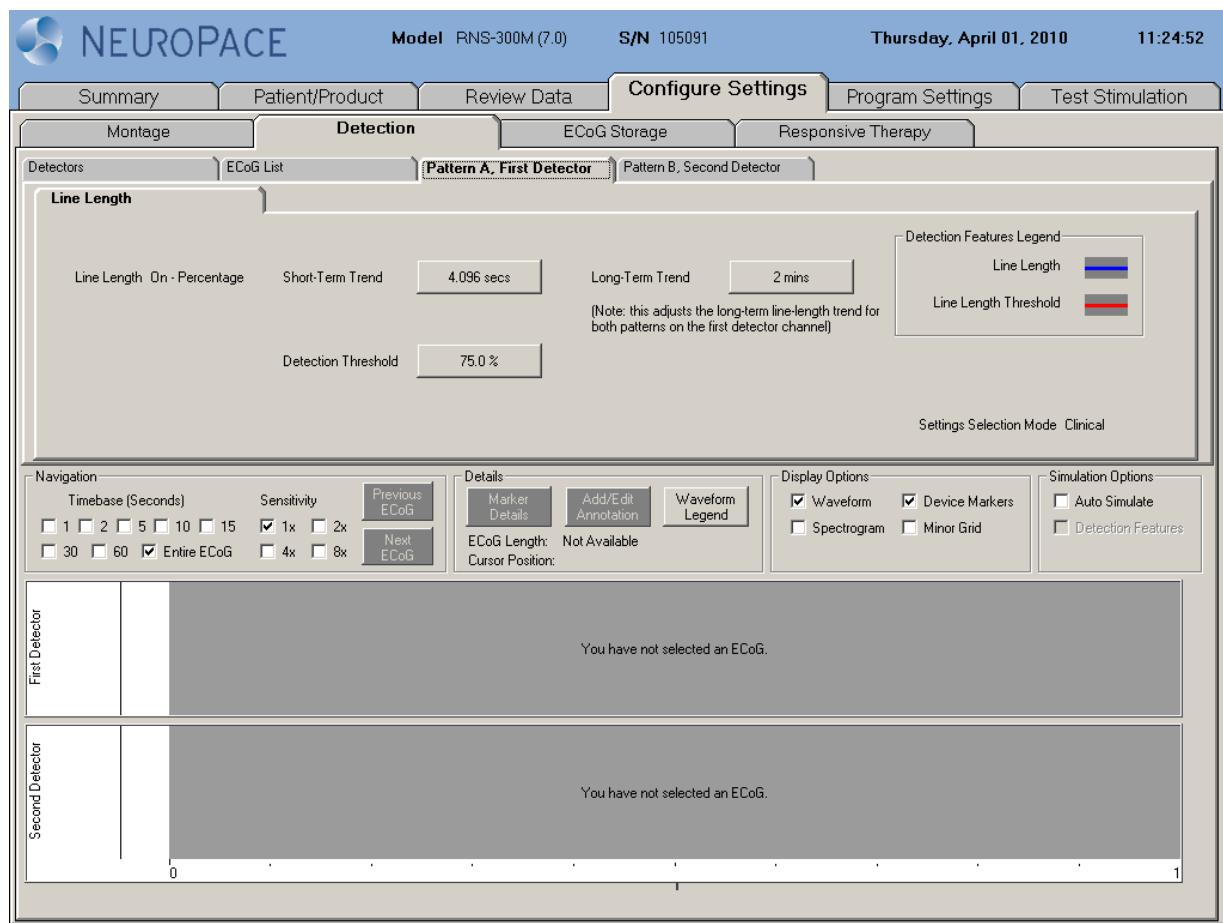

Figure 32: Line Length tab.
- Adjust **LINE LENGTH** detector settings (Figure 32).